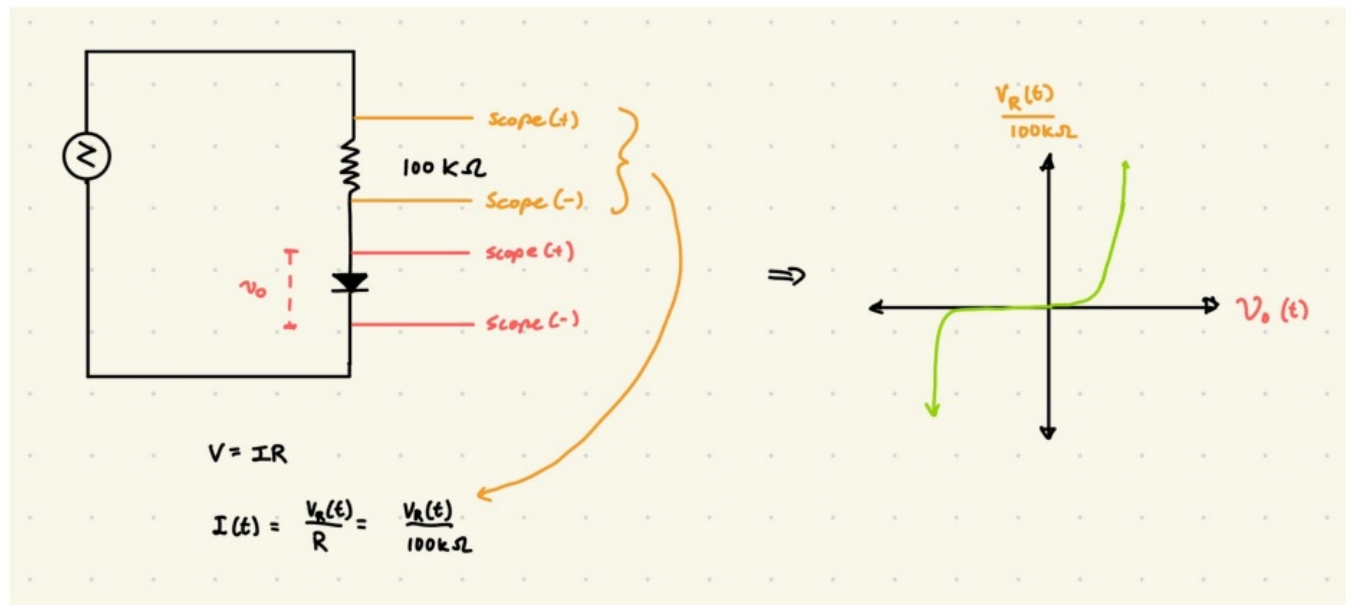

Figure 2, circuit diagram to measure the I-V relationship of a diode using a $100\text{ k}\Omega$ resistor, with expected I-V relation
In [7]: InlineImage('diodeess.png', width=12, height=12, caption= "Figure 2, circuit diagram to measure the I-V relation");
First, I will build the circuit to obtain the I-V relation for the diode. I built the circuit from figure 2:
2. I tried dividing it by 100 instead of 100 000, and now I see the positive portion of the graph I sketched in figure 2. This is the same as keeping the value in $k\Omega$, but then the final value has units in mA rather than A. Actually, this makes sense now; the waveform software axis is in mA by default, and I was giving it an input of μA by dividing voltage by 100 000. Also, I now see a tiny lift at the end of the graph, which is probably because my values were just 1000x too small to see a noticeable change!!.